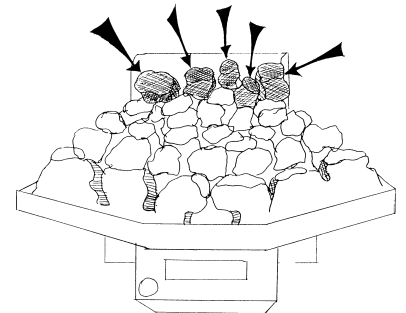

fig.4
5. Place the remaining coals on top of the main fire bed ensuring a gradual slope upwards to the back of the fire is maintained. (fig. 4.)